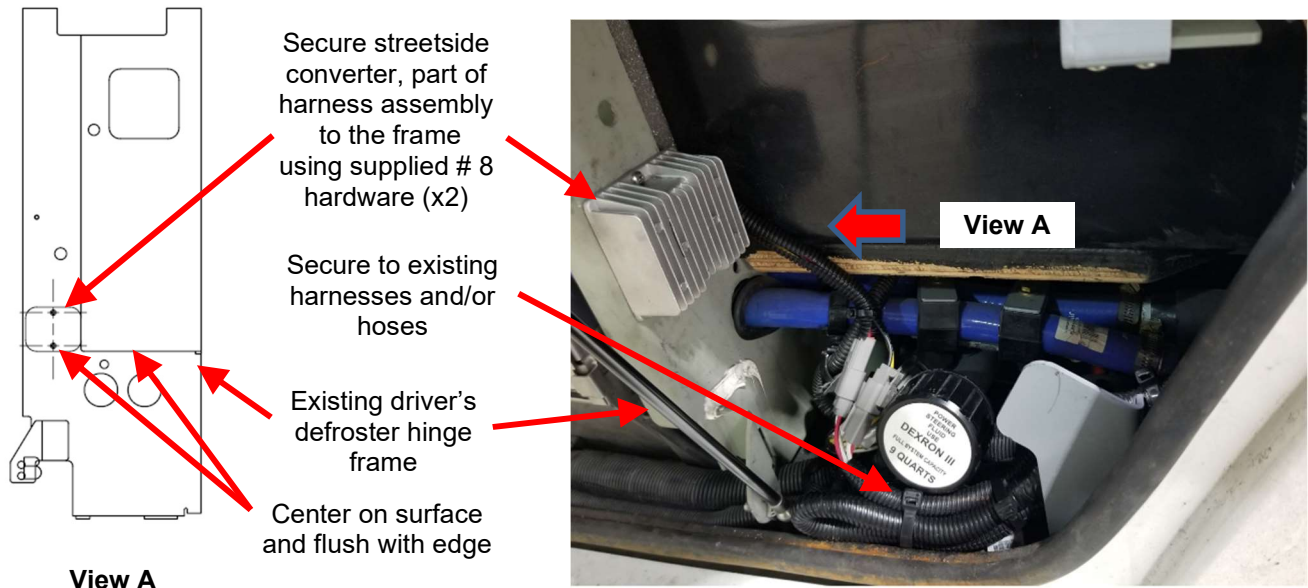

Figure 4: Streetside Headlamp Assembly Harness and Converter Installation
8. Position and orient the converter from the streetside headlamp harness assembly (part of Kit p/n 6487018) at position shown in Figure 4 and using the converter holes as a template drill a 0.177 dia clearance hole (#16 drill bit) thru the outer driver's defroster frame, typ 2 plcs. Secure converter to the frame using supplied # 8 (x2) hardware (part of Kit p/n 6487018) as shown.